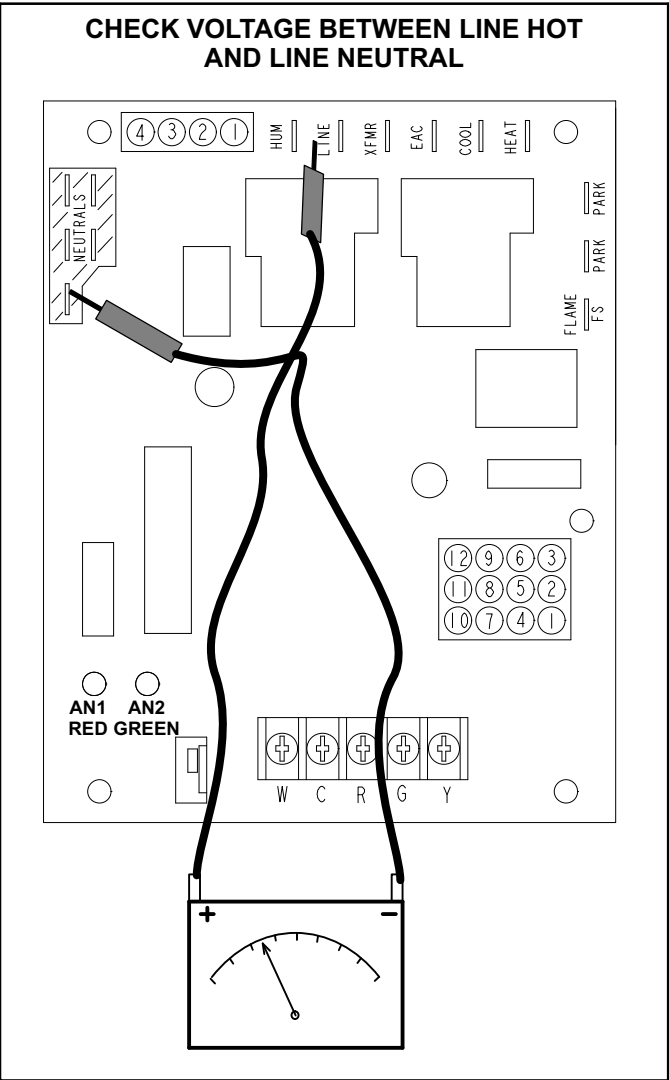

FIGURE 67
- 2 - In addition, measure the AC voltage from Line Hot to Line Neutral (spade terminals) on the integrated control. See figure 67. This voltage should be in the range of 97 to 132 Vac